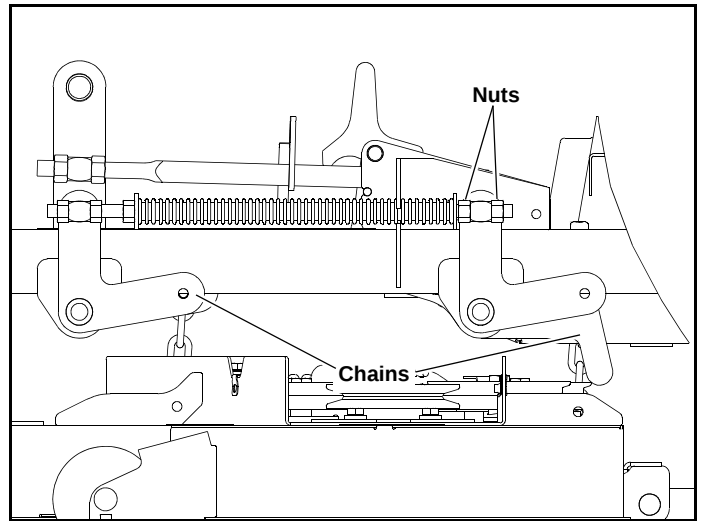

Figure 7-6
21. Tighten the appropriate nut until the chain just becomes tight, and carries most of the deck weight. Check by moving the block—it should move with a slight drag. Figure 7-6